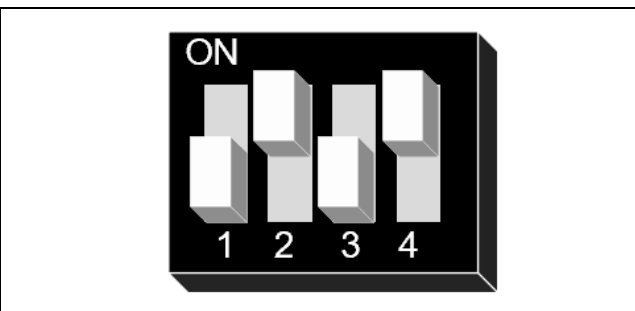

Figure 5. SCIF Download Mode
1. To set the board to SCIF download mode, set “SW_MODE” according to the switch setting in Figure 5 of Table 6. DIP Switch “SW_CONFIG“ Settings.